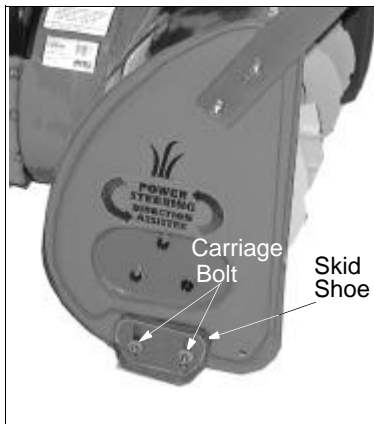

Figure 15
1. Remove the four carriage bolts, belleville washers and hex nuts which attach skid shoes to the snow thrower on two sides. See Figure 15.